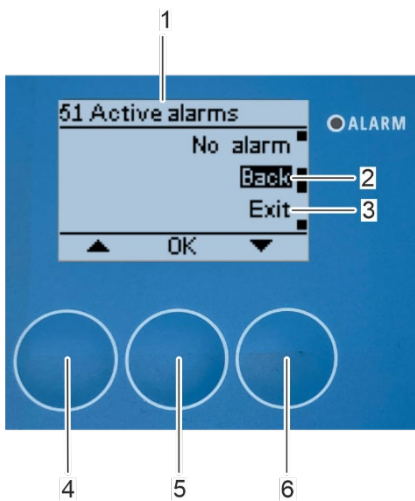
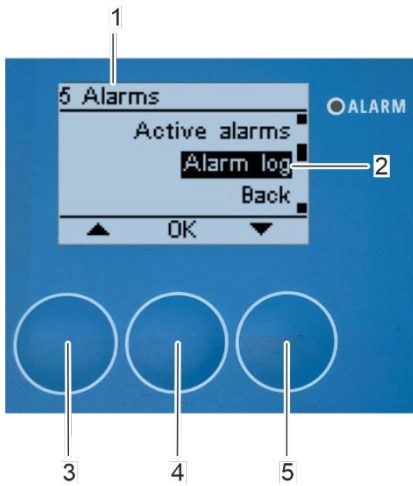
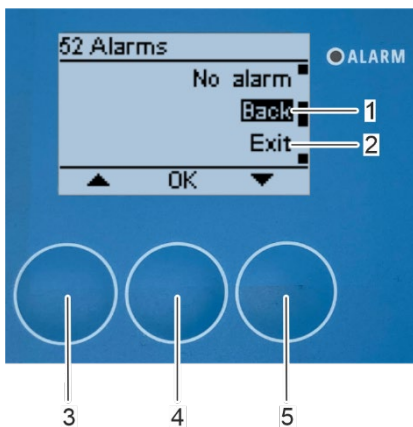

Fig. 185: Leave submenu “51 Active alarms”
Fig. 186: Open submenu „Alarm log“
Fig. 188: Leave submenu "52 Alarms"
3. Select [Back] (Fig. 185/2) to return to “5 Alarms” submenu (Fig. 186/1) or [Exit] (Fig. 185/3) to leave the menu and return to the home screen with the arrow keys [up] (Fig. 185/4) and [down] (Fig. 185/6).
4. Confirm the selection with [OK] (Fig. 185/5).
1. Select the "Alarm log" submenu (Fig. 186/2) with the arrow keys [up] (Fig. 186/3) and [down] (Fig. 186/5).
2. Confirm the selection with [OK] (Fig. 186/4).
3. Select [Back] (Fig. 188/1) to return to the "5 Alarms" submenu (Fig. 186/1) or [Exit] (Fig. 188/2) to leave the menu and return to the home screen with the arrow keys [up] (Fig. 188/3) and [down] (Fig. 188/5).
4. Confirm the selection with [OK] (Fig. 188/4).